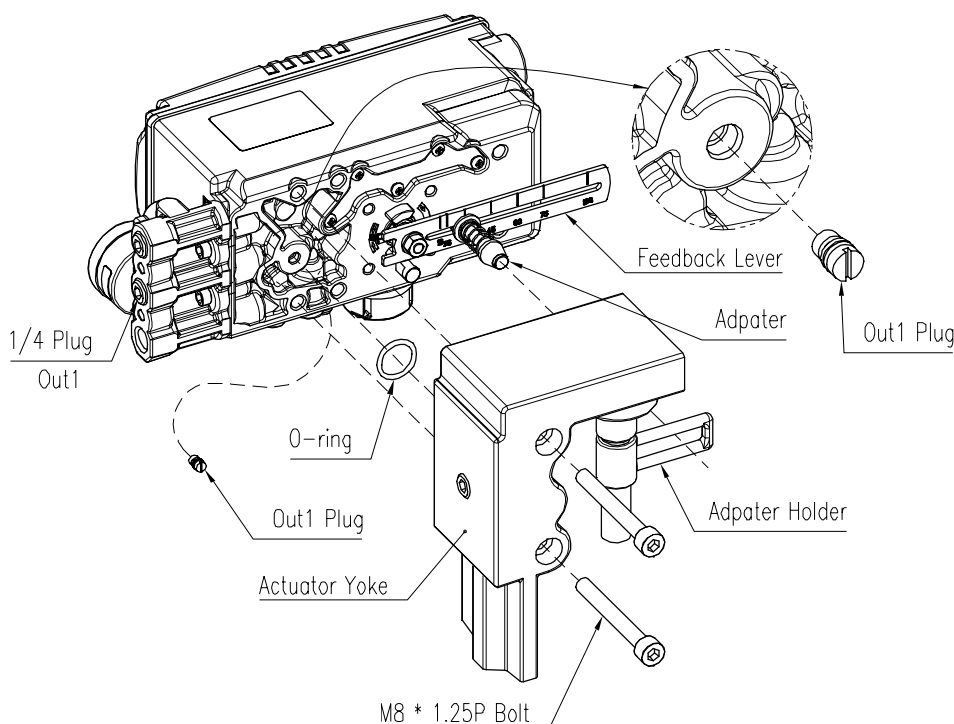

Fig. 3-11: Installing the positioner on the actuator
- 1) Remove Out1 Plug(Fig. 3-11) on the bottom of the positioner. Plug up out1 port of gauge block with 1/4 plug using sealant.